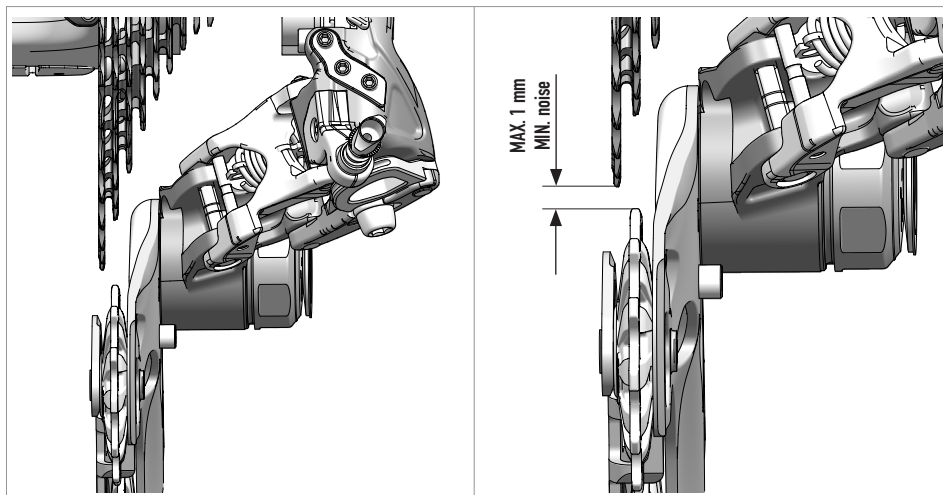

Fig.21
- The upper wheel must be at the correct distance from the largest sprocket (Fig.21).